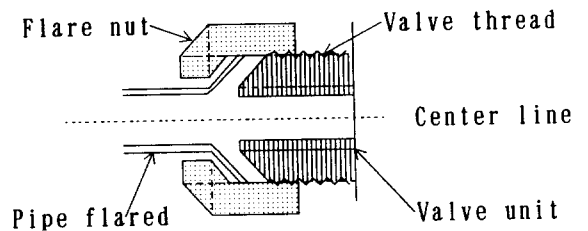

Fig. 1
① As shown in Fig. 1, adjust the pipe so that the center line of the pipe sets to that of the valve and then tighten the flare nut by hands. (Tightening the nut with a spanner initially causes the thread to damage and gas leakage.)